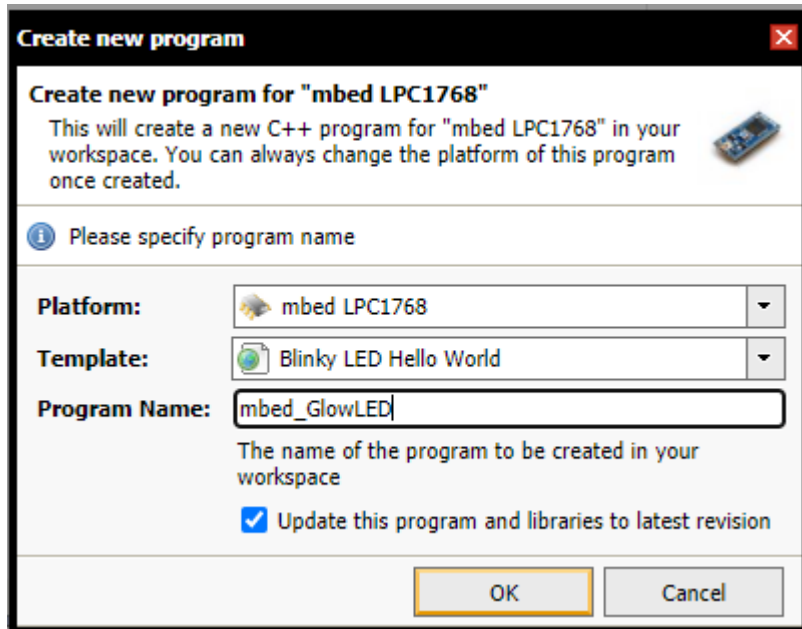

Figure 12.3 Creation of a New Program
5. Create a new program by selecting “New Program” in the “New” tab of the online IDE. As shown in Figure 12.3, type in the program name and click “OK”.